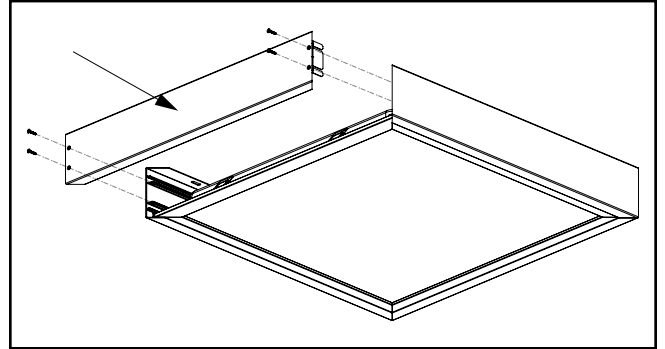

Figure 9.
- A9. Reinstall the floating type “B” rail, L-brackets and screws, and affix the included labels to the floating type “B” rail next to each pair of screws. (Figures 9 and 10.)